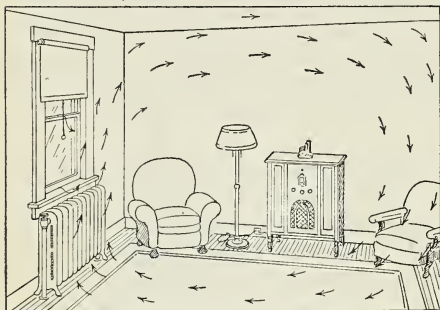

Fig. 179. How a room heats. What makes the convection currents?
**How a room heats.** Have you ever noticed that a room is hotter near the ceiling? Sometimes a schoolroom may be quite warm enough for the teacher who is standing, and uncomfortable for small children at low desks. The usual explanation is that heated air rises. A little more accurately, air on heating expands and is lifted by cooler air. To see how air moves in a room, hold a smoking punk stick above the radiator in a room near the window, and at other places where air might be heated or cooled (Fig. 179).